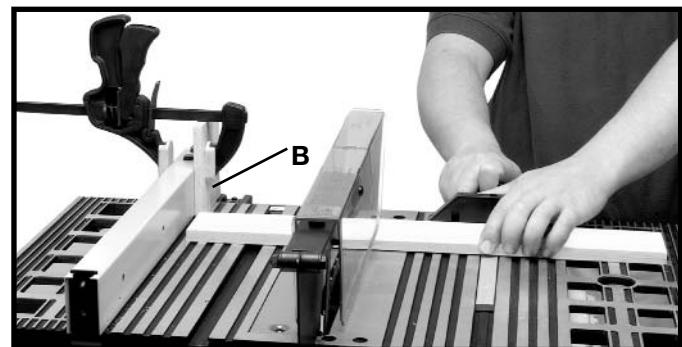

Fig. 42B
When cross-cutting a number of pieces to the same length, a block of wood (B) Fig. 42B can be clamped to the fence and used as a cut-off gage as shown in Fig. 42B. It is important that this block of wood always be positioned in front of the saw blade as shown. Once the cut-off length is determined, secure the fence and use the miter gage to feed the work into the cut. This block of wood allows the cut-off piece to move freely along the table surface without binding between the fence and the saw blade, thereby lessening the possibility of kickback and injury to the operator.
**CAUTION** **WHEN USING THE BLOCK (B) FIG. 42B, AS A CUT-OFF GAGE, IT IS VERY**